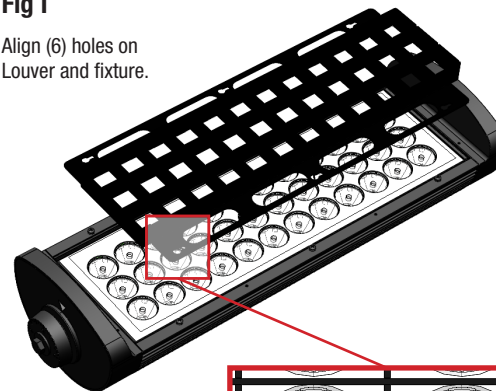

Fig 2
- 2) Use the screw slots to position the Louver on the fixture. **Fig 2**